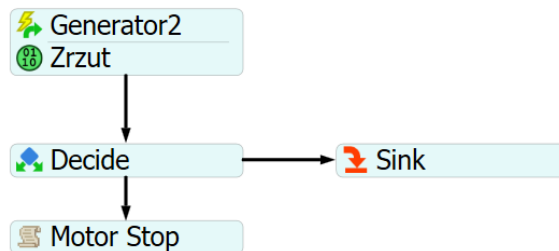

Fig. 20 Process Flow – removing defective products
*Process Flow* scheme will be responsible for removing defective products from the system, stopping it and restoring it to its initial state. ( fig. 20 ).